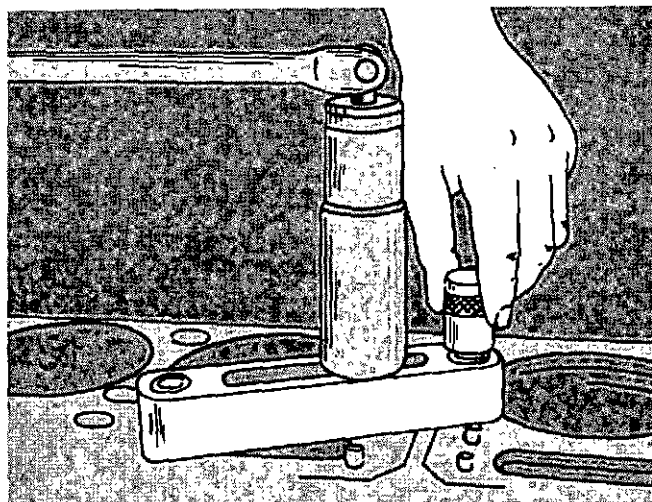

Fig. 1-30. Install The Locating Pin.
2. Put the locating pin into the $9/16$ inch [14.30 mm] bushing in the plate and into the waterhole to be repaired, Fig. 1-30.